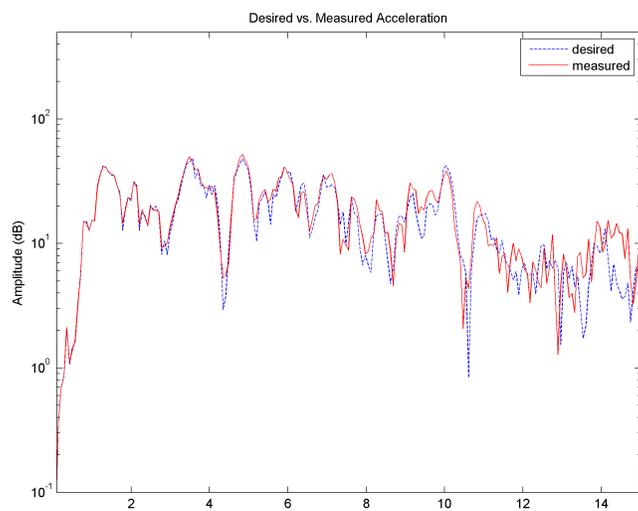

Figure 3.14: FFT of desired and measured acceleration.
- To produce the acceleration power spectrum,  $A(\omega)$ , similar to Figure 3.14, run *fft\_eval\_acc.m*. The blue and red traces are the desired and measured accelerations, respectively.